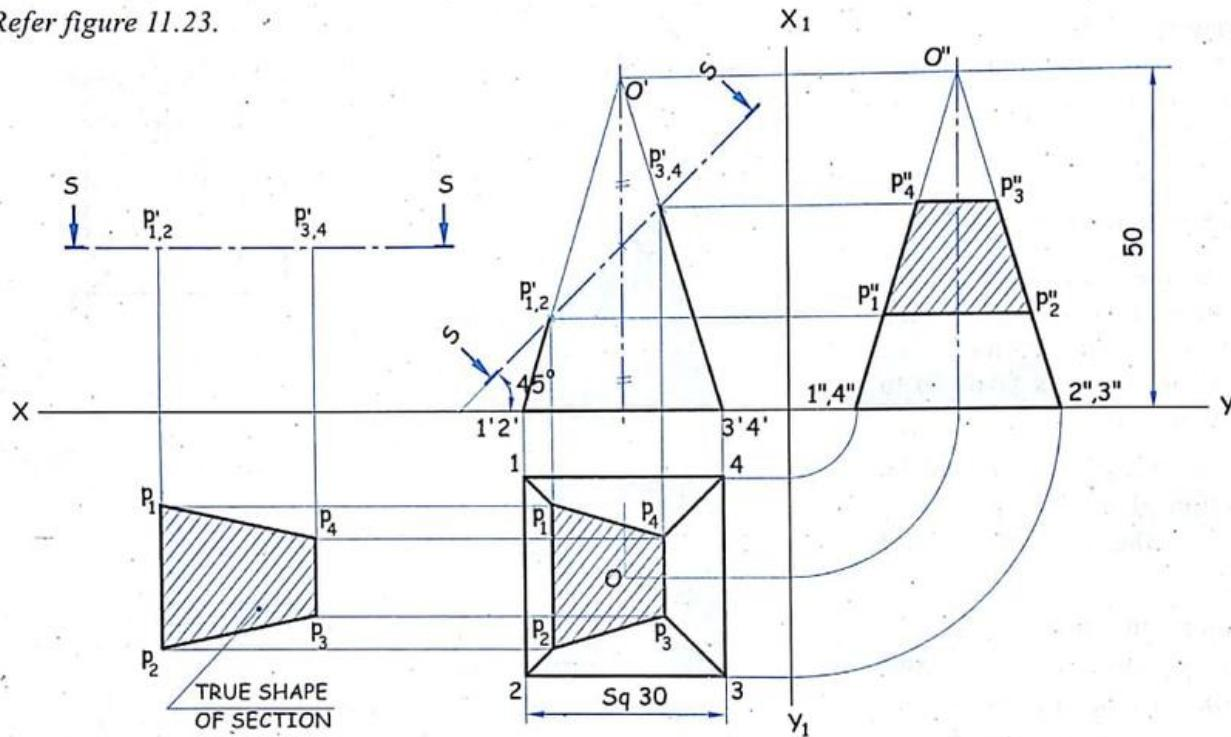

FIG.11.23
Refer figure 11.23.
- Place the section plane S-S with points \$P_1', P_2', P_3', P_4'\$ parallel to the XY line as shown in figure 11.23.